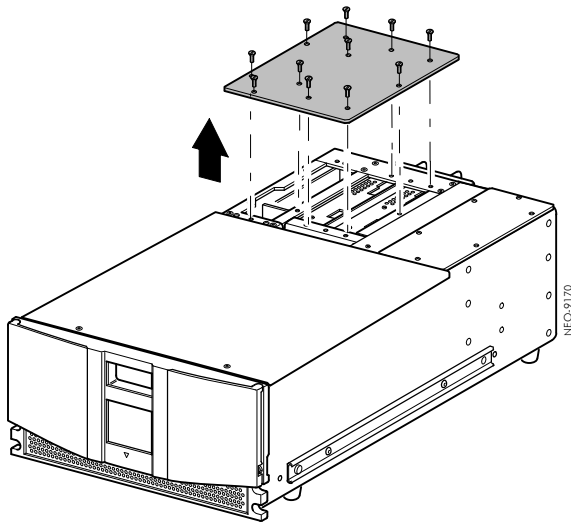

Figure 3. Remove Fan Cover Screws
- Remove and retain the 11 screws that secure the Fan Cover assembly to the library chassis (Figure 3).